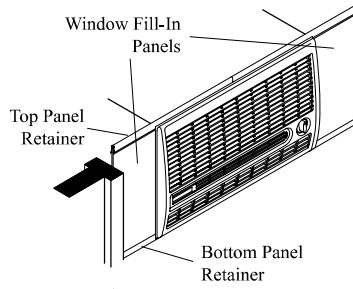

Fig. 3
- **Install window panel retainers.** Place two panel retainer strips onto bottom of neck flange and position to the width of the window. Cut the strips to fit if necessary. These strips hold the window fill-in panels (Fig. 3).